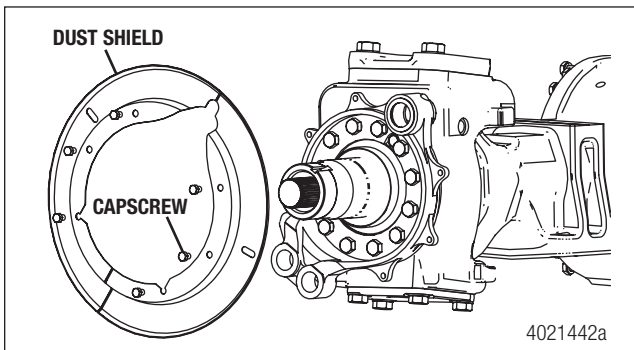

Figure 7.19
7. Install the brake dust shield with the mounting capscrews and tighten to specification. Refer to Section 12 Specifications on page 77. Figure 7.19.